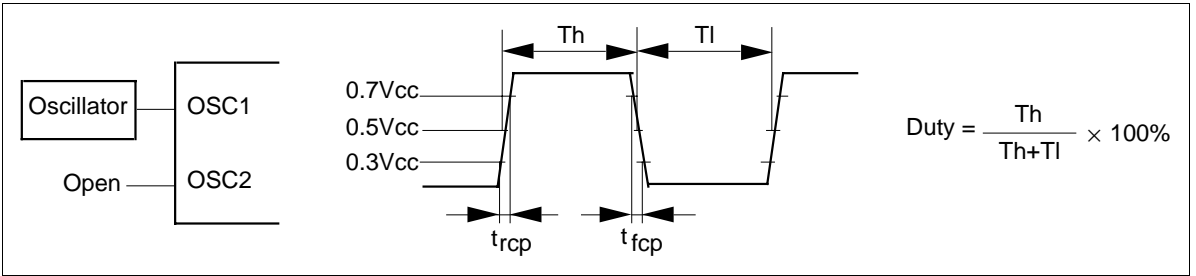

Figure 62 External Clock Supply
13. Applies to the external clock input (figure 62).